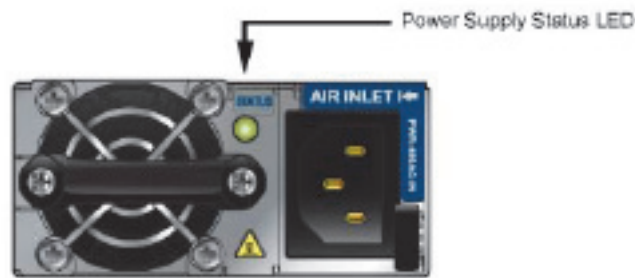

Figure 30 Power Supply Status LED location
2. You must confirm that the power supply specified for replacement is not working, and that the LED on the other power supplies are operational green and lit steadily (Figure 30). Access to the power supplies is from the front of the rack.
1. Unplug the AC power cable from the power supply you intend to remove (see Figure 30).